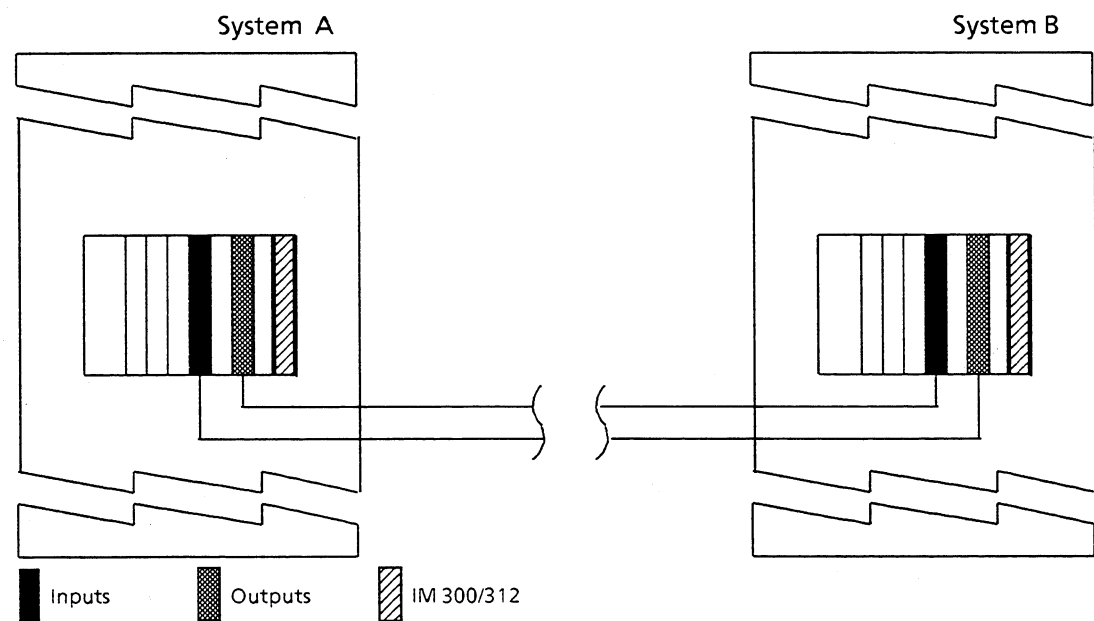

Figure 7-2. Signal Transfer for Distributed Installation
- Signal transfer between separate systems via floating input/output modules (see Figure 7-2).